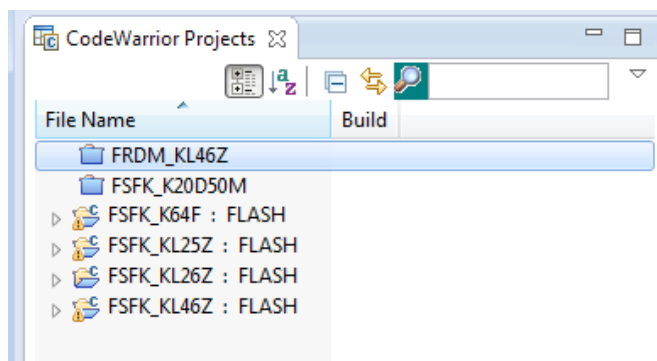

Figure 12. CodeWarrior Projects tab
- a. To change the UART assignment in Processor Expert, in the **CodeWarrior Projects** tab, select the appropriate project name for the board you are using. See Figure 12.